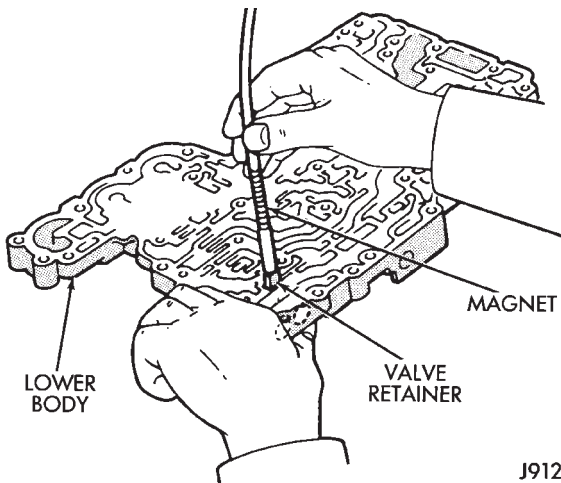

Fig. 3 Removing 1-2 Shift Valve Retainer
- (4) Remove solenoid No. 1, 2 and 3. Discard solenoid O-rings.
- (5) Remove 1-2 shift valve retainer (Fig. 3).